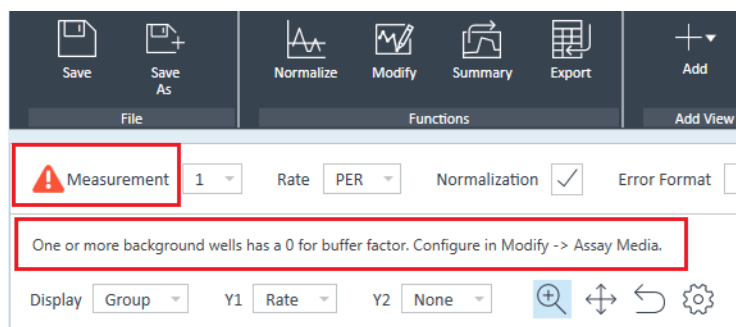

Figure 64 Alert when background well buffer factor is not configured
- 12 When finished with analysis, save the changes made to the result file. If the background well buffer factor values have not been configured, Wave will show an "attention" icon next to the rate measurement drop-down menu. (See Figure 64.)